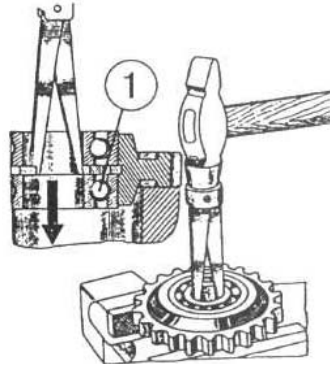

Figure 4.43
e) press bearing 1 (Figure 4.43) off gear;